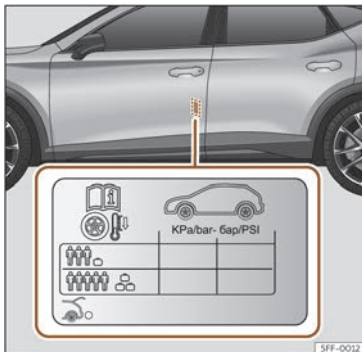

Fig. 223 Location of the tyre pressure sticker.
- Adjust tyre pressure to the load being carried by the vehicle»» **Fig. 223**.
The tyre inflation pressures are listed on a sticker on the rear of the front left door frame»» **Fig. 223**.
The tyre pressure must be adjusted according to the load the vehicle is carrying. If the vehicle is going to carry the maximum load, the tyre pressure should be increased to the maximum value indicated on the sticker »» **Fig. 223**.
In the case of a minimised temporary spare wheel (125/70 R18) inflate to a pressure of 4.2 bar as indicated on the tyre pressure label»» **Fig. 223**.
>>> Fig. 223.
- When the tyres are cold, tyre pressure should be that indicated on the label >>> Fig. 223.